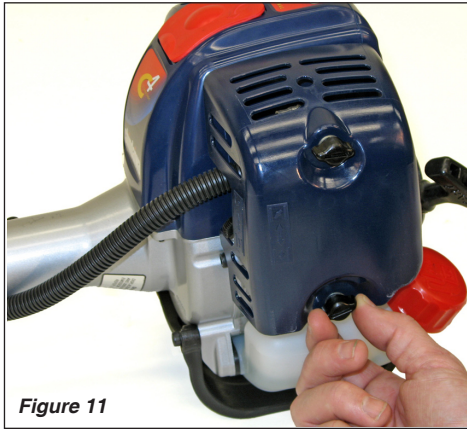

Figure 11
1. Loosen the air cleaner cover knob and remove the air cleaner cover. See Figure 11.